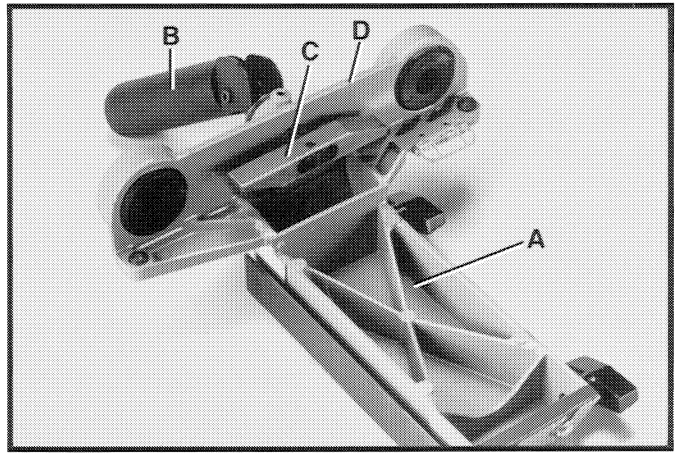
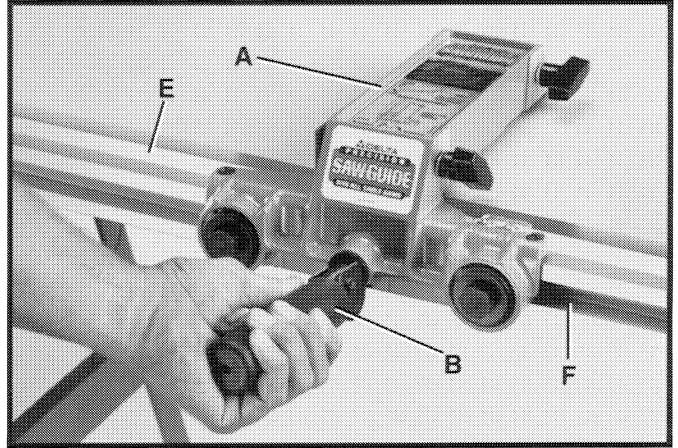

Fig. 43
Fig. 44
1. Turn fence body (A) Fig. 43, over and lay it on a table or bench. Push handle (B) Fig. 43, in against fence body. Make certain surface (C) of clamp bracket is parallel to edge (D) of the fence body. Rotate handle (B) if necessary.
2. Turn fence body over and place fence body (A) Fig. 44, onto the guide rail (E), making certain the clamp bracket (C) Fig. 43, is inserted into channel (F) Fig. 44, of guide rail. Notice that clamp handle (B) Fig. 44, is in the left indent position.